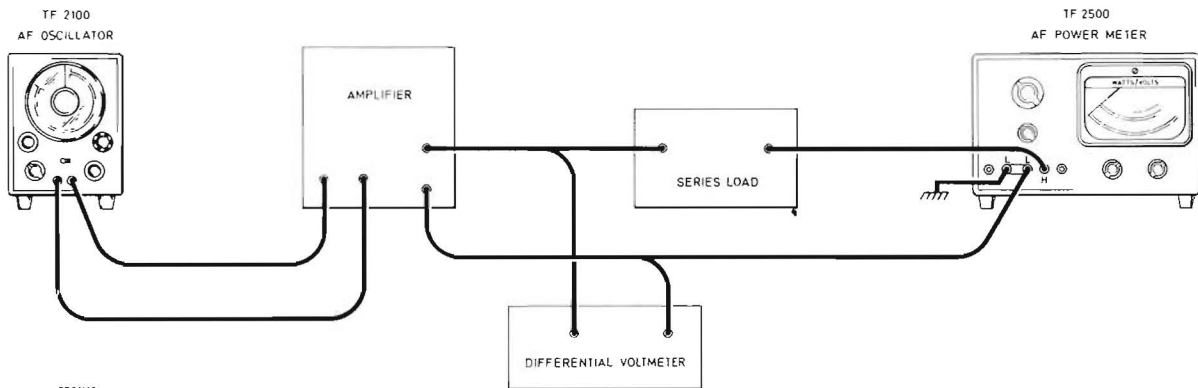

Fig. 4.4 Test gear to check power accuracy
- (1) Connect the test equipment as shown in Fig. 4.4. The series load must equal the impedance setting of the power meter.
- (2) The reading of the differential voltmeter (V_0) must be within $\pm 2\frac{1}{2}\%$ of the values given in